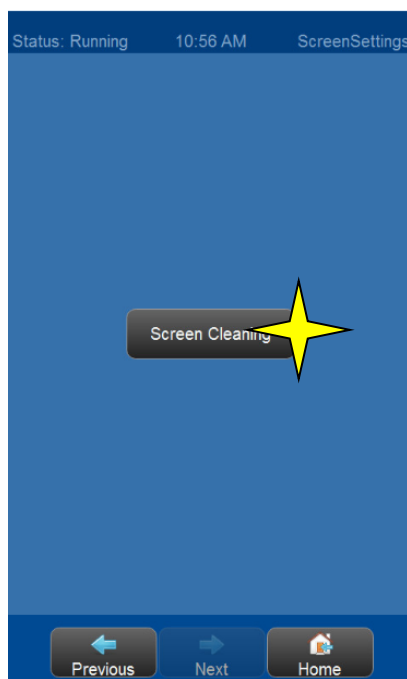

Figure G-2:
- 4) Next, press <SCREEN CLEANING> to activate the screen cleaning function [Figure G-2].